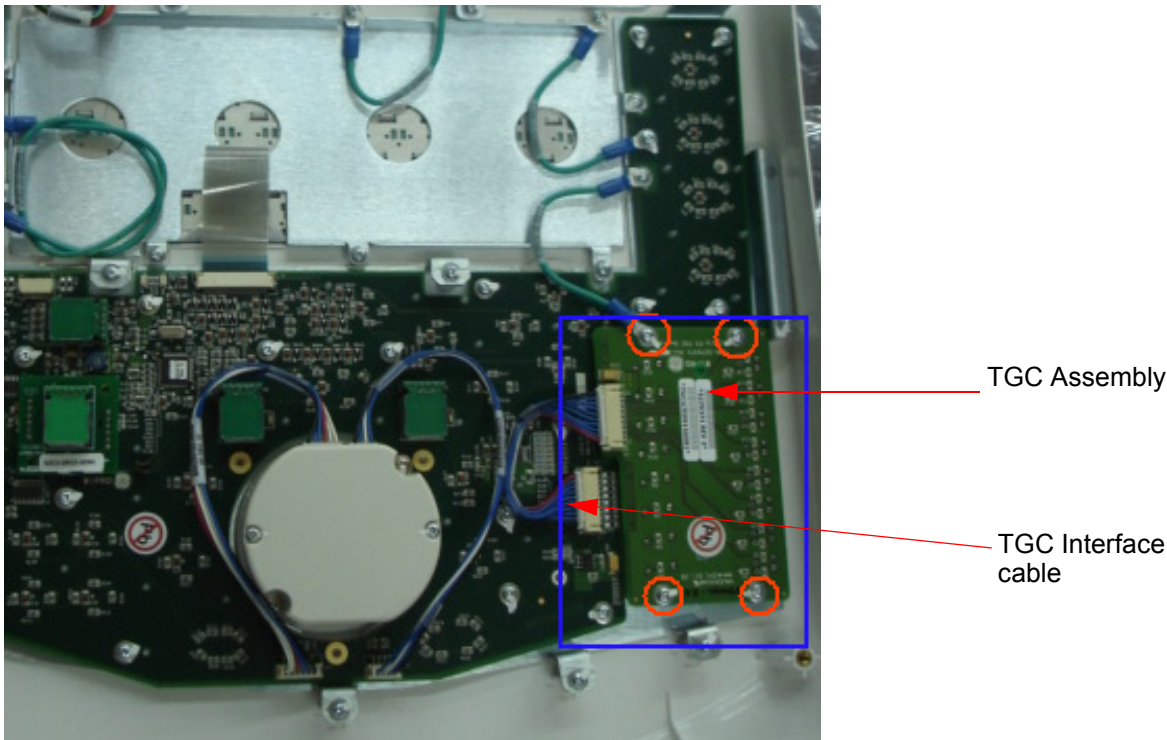

Figure 8-14 TGC PCB
- 3) Remove TGC assembly by removing the four screws (as marked in Figure 8-14 on page 8-16 )